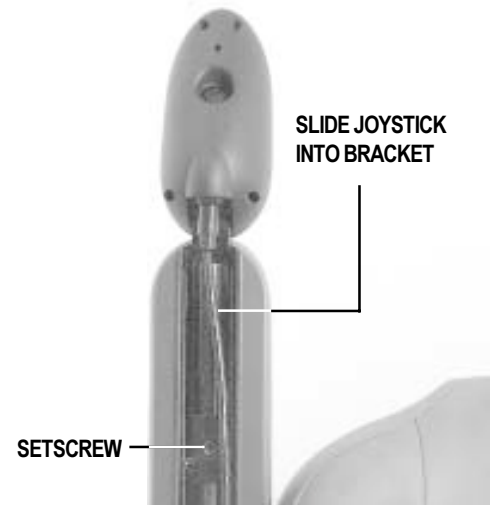

Figure 15. Joystick
1. Use a 3/16-in. hex wrench to loosen the setscrew. See figure 15.